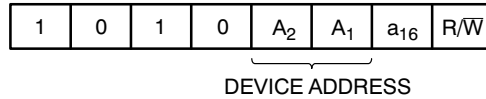

Figure 3. Slave Address Bits
The Master initiates data transfer by creating a START condition on the bus. The Master then broadcasts an 8-bit serial Slave address. The first 4 bits of the Slave address are set to 1010, for normal Read/Write operations (Figure 3). The next 2 bits, A₂, A₁, select one of 4 possible memory devices connected on a single I²C bus. The A₂ and A₁ bits must match the state of the external address pins. The seventh bit, a₁₆ is the most significant internal address bit. The last bit, R/\overline{W} , specifies whether a Read (1) or Write (0) operation is to be performed. To select an internal memory location (data byte) a 17-bit address word is required: a₁₆ bit from the Slave address byte followed by two address bytes.